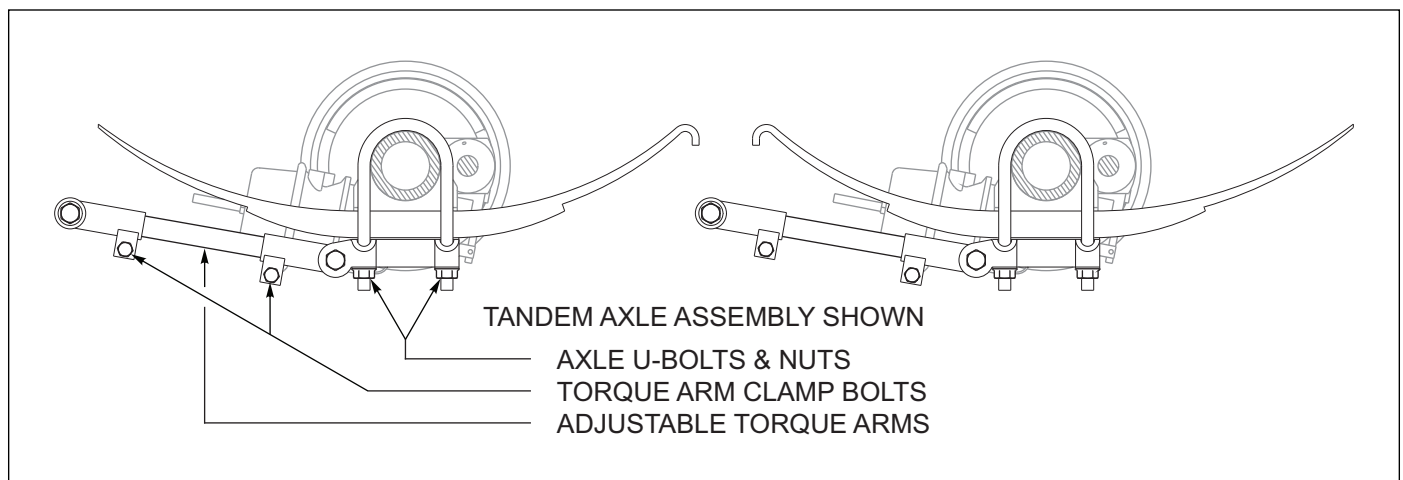

Figure 4-10: Spring Ride Adjustable Torque Arm
6. Align if measurement requires: Loosen the adjustable torque arm clamp bolts. Slightly loosen the axle u-bolt sets evenly on each side of the axle, See Figure 4-10.
7. Turn the adjustable torque arm clockwise or counter-clockwise to adjust. Repeat Steps 5-7 until measurement is achieved. See Figure 4-10.
3. Align if measurement requires: Loosen the adjustable torque arm clamp bolts. Slightly loosen the axle u-bolt sets evenly on each side of the axle, See Figure 4-10.
4. Turn the adjustable torque arm clockwise or counter-clockwise to adjust. Repeat Steps 5-7 until measurement is achieved. See Figure 4-10.